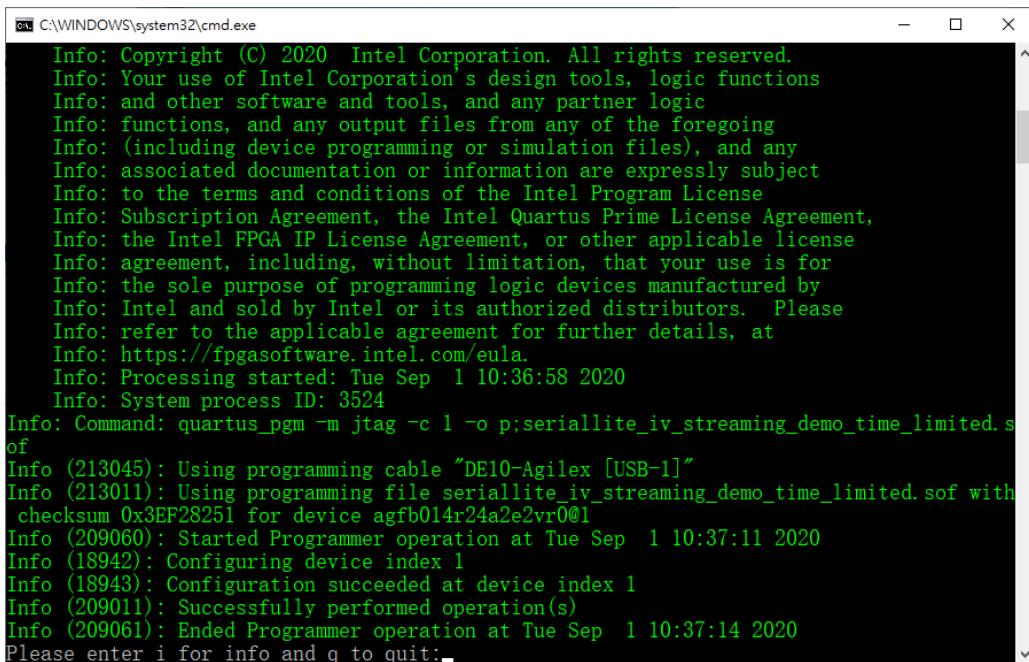

Figure 9-14 Setup QSFP28 or QSFPDD loopback fixture
1. Insert QSFPDD loopback fixtures into the QSFPDD port on the DE10-Agilex board, as shown in **Figure 9-14**.